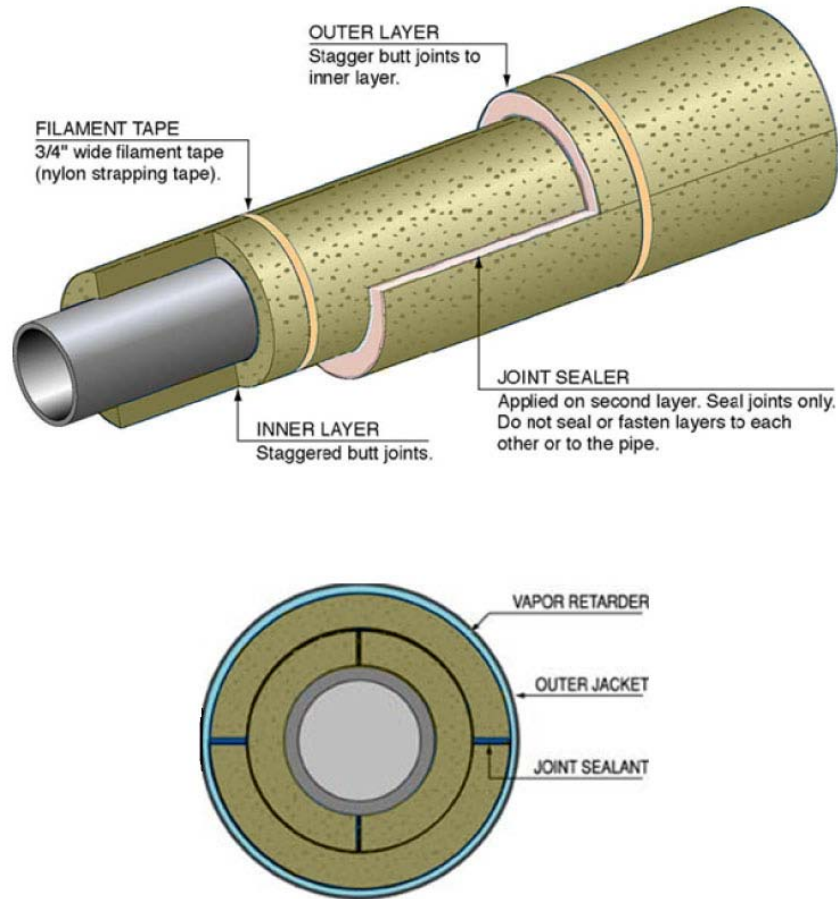

Figure 1
- 4.1.3 Where insulation thickness required is less than 5", utilize a double layer system. Stagger all longitudinal joints between the inner and outer layers. Install the inner and outer layer longitudinal joints 90° to each other with the inner layer joints in the 12 and 6 o'clock positions and the outer layer joints in the 3 and 9 o'clock positions. All butt joints between the inner and outer layers shall be staggered between 6 and 18 inches. Refer to Figure 1 in Appendix B.
- 4.1.8 In double layer insulation system, inner layer shall not be installed with sealants. In double layer systems the inner and outer layer shall remain independent of each other to allow movement between the layers. Refer to Figure 1 in appendix B.